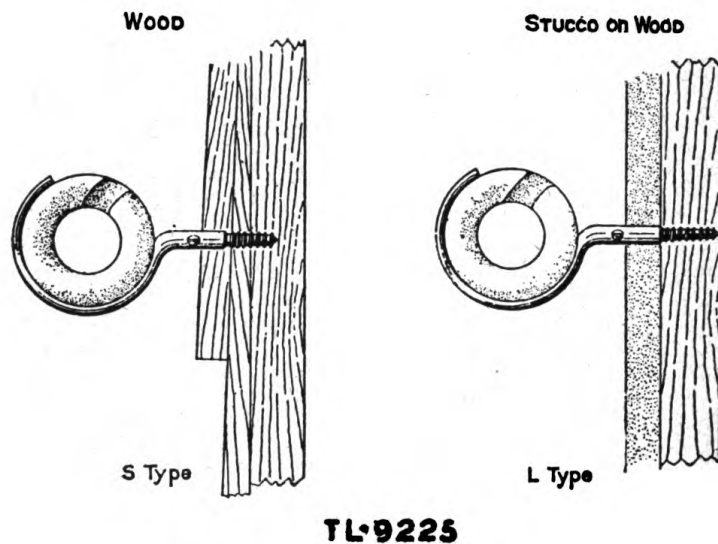

Figure 30. Insulated screw eyes installed on various surfaces.
p. INSTALLING INSULATED SCREW EYES. (1) On stucco-finished walls, drill stucco with 3/16-inch, short masonry drill.
(2) Figure 30 shows various installations of insulated screw eyes.